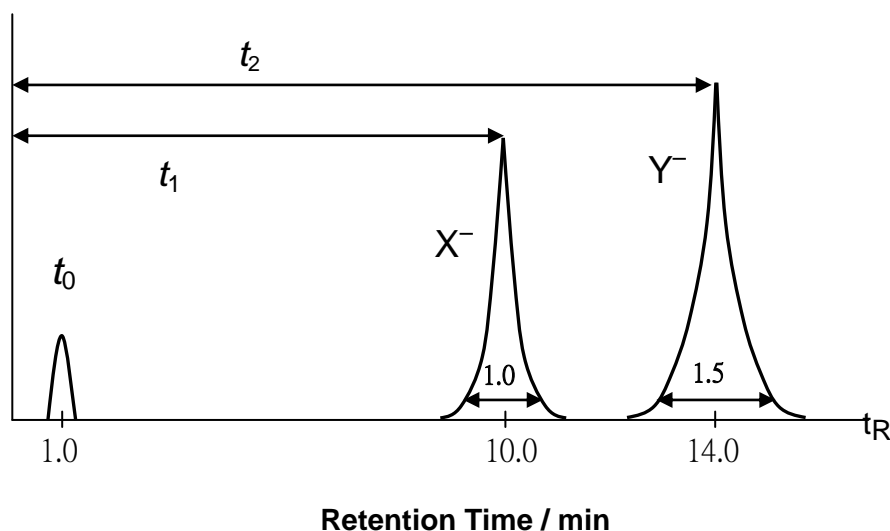

Figure 1. Liquid Chromatogram for X^- and Y^- ions
3.6 Ion exchangers can be employed as stationary phase materials in liquid chromatography to adsorb and separate various ions. For example, the anionic ion exchanger R^+OH^- can be used to separate X^- and Y^- ions with the eluent NaOH. The chromatogram for separation of X^- and Y^- ions using a 30 cm of anionic ion exchange column is shown in Figure 1, where t_1 , t_2 and t_0 are the retention times (t_R) for X^- , Y^- and the pure eluent (NaOH) to traverse the column, respectively. ω_1 and ω_2 are the peak-widths for X^- and Y^- . The number of theoretical plates N and the plate height H (height equivalent of the theoretical plates) of the column can be estimated as shown below: